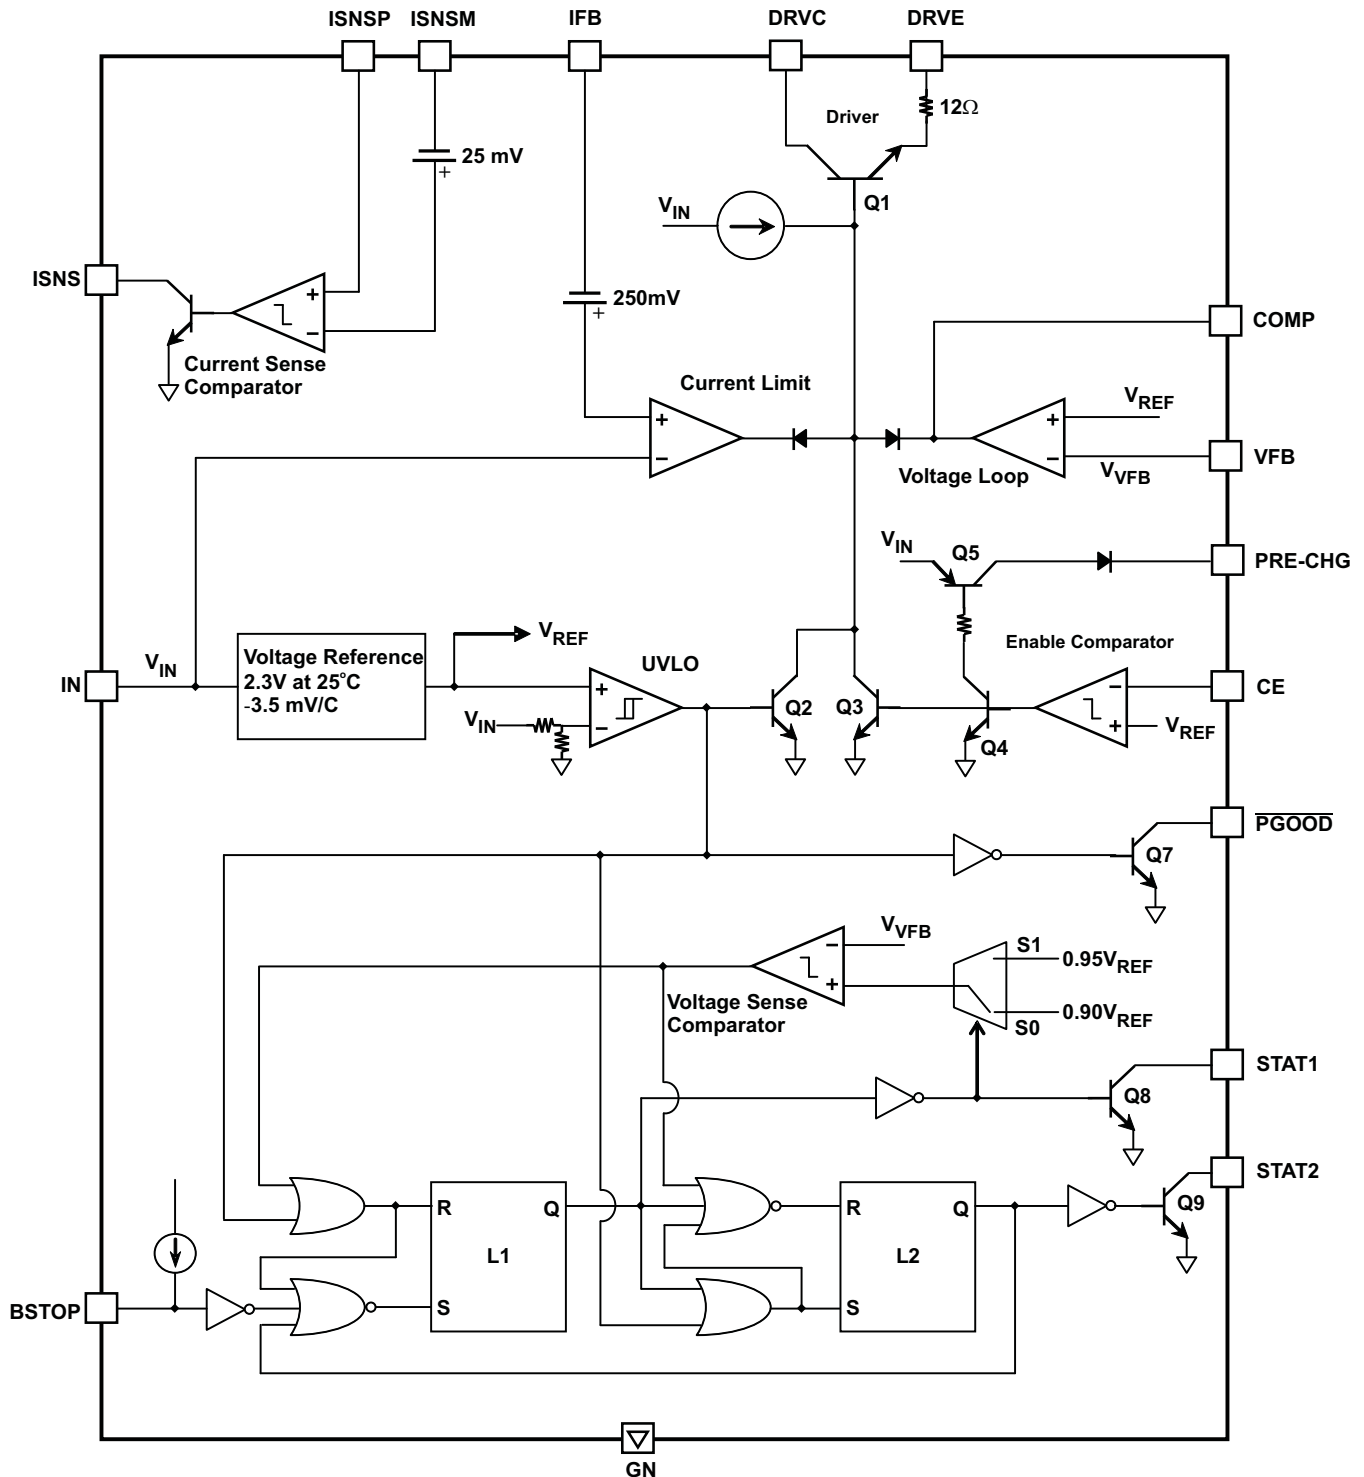
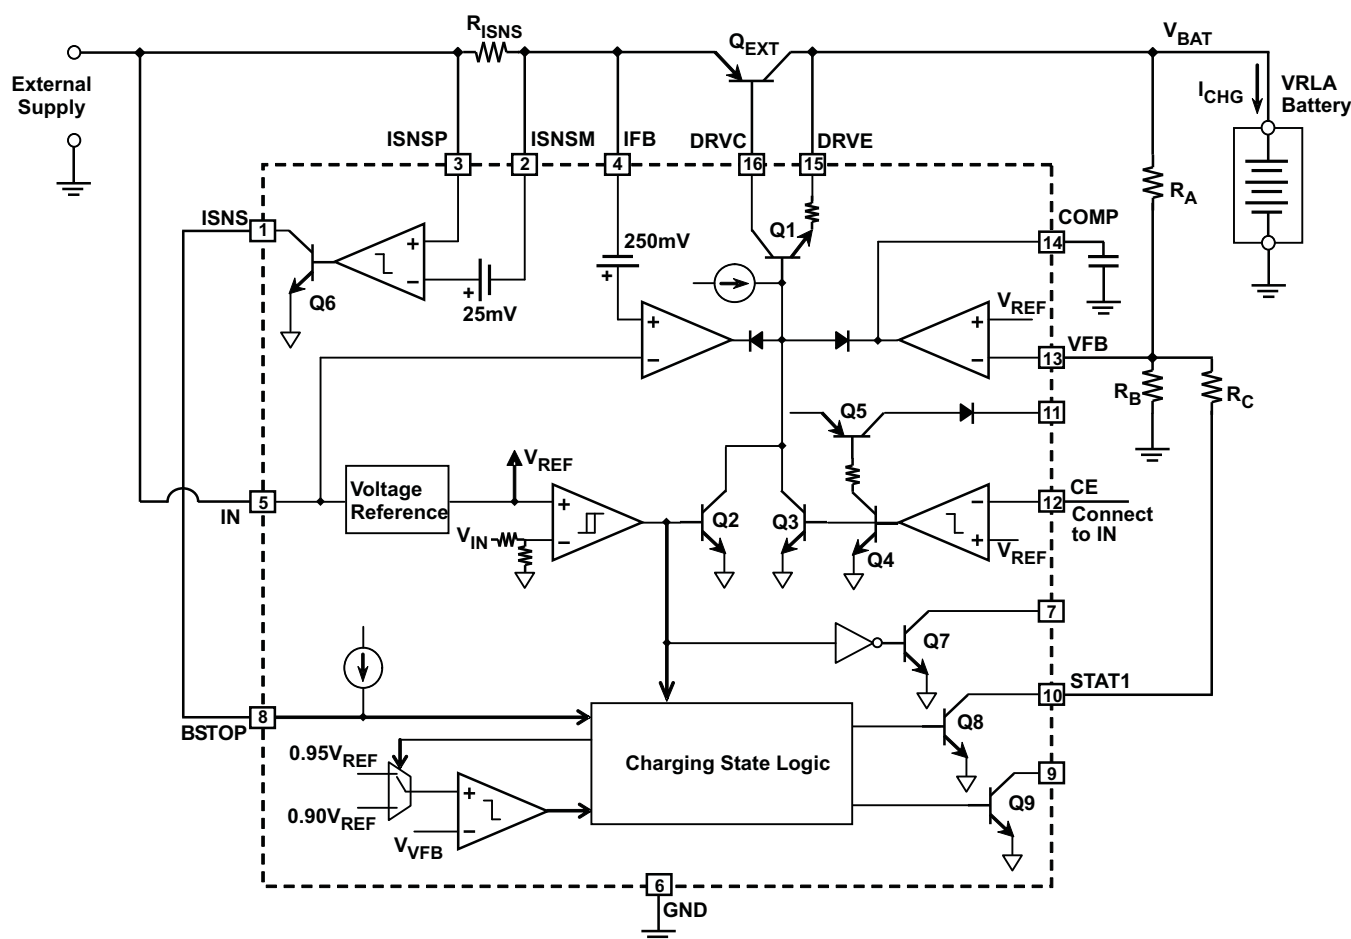
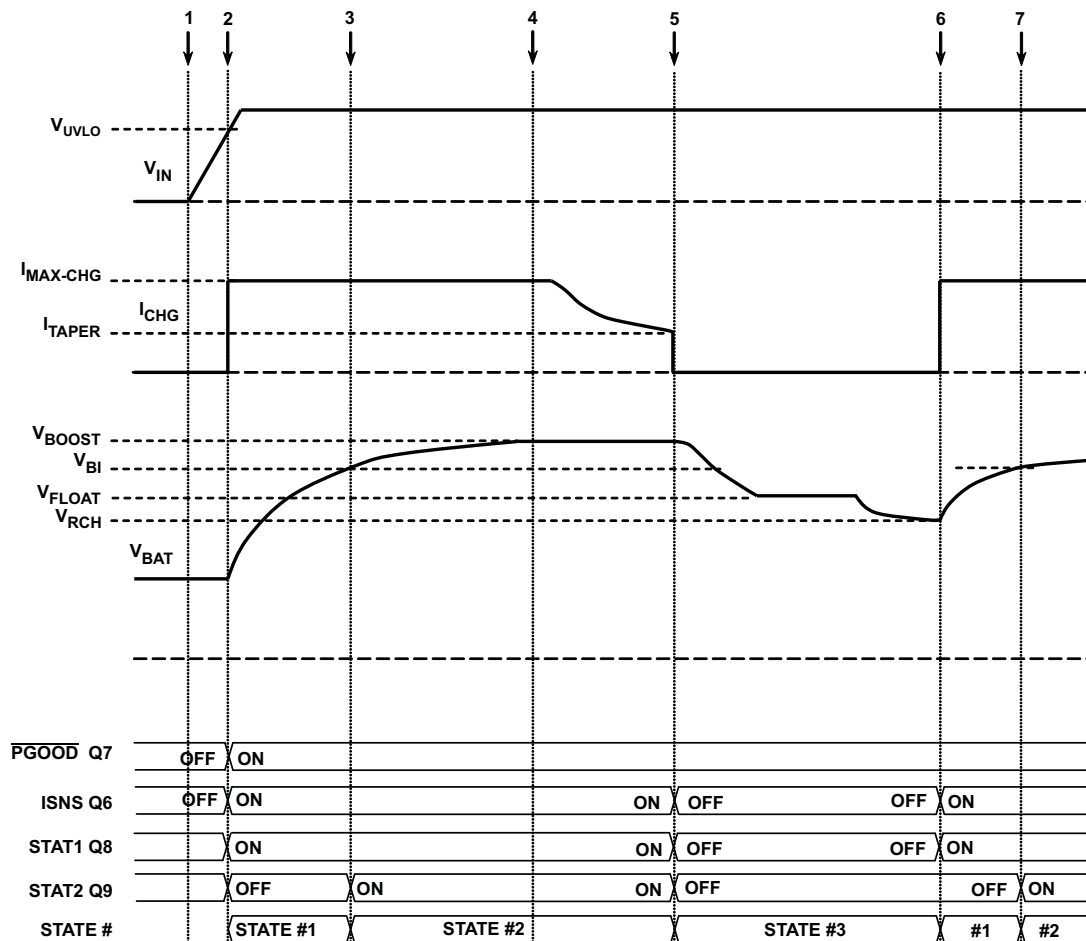

Figure 2. Simplified Block Diagram
Figure 4.
Figure 5.
Only an external pass transistor and minimum number of external passive components are required along with the IC to implement a charger for sealed lead-acid batteries. The IC's internal driver transistor Q1 (see Figure 2) supports NPN as well as PNP pass transistors, and provides enough drive current (25mA specified) to support a wide range of charging rates.
The driver transistor is controlled by a voltage regulating loop and a current limiting-limiting loop (see Figure 2). The current-limiting loop reduces drive when the voltage between the IN pin and the IFB pin increases towards V_{ILIM} (250mV typical). The voltage regulating loop tries to maintain the voltage on the VFB pin at V_{REF} . Together, these two loops constitute a current-limited precision constant-voltage system, which is the heart of any lead-acid charger. The voltage regulating amplifier needs an external compensation circuit which depends on the type of external pass transistor (see Application Information section).
An undervoltage lock-out circuit is also provided (see Figure 2). This circuit disables the driver transistor as long as the input voltage is below UVLO (4.5V typical). The UVLO circuit also drives an open-collector output PGOOD.
Figure 4 shows the bq24450 configured as a simple dual-level float-cum-boost charger. Figure 5 shows the sequence of events that occur in a normal charge cycle. At (1) in Figure 5, power is switched ON. As long as the input voltage V_{IN} is below the undervoltage lockout UVLO, Q2 is ON, disabling the driver transistor Q1. As the input voltage V_{IN} ramps up and rises above UVLO Q2 turns OFF. This enables Q1 and thus the external transistor Q_{EXT} . At the same time, Q7 turns ON, latch L1 is forced to RESET and latch L2 is SET (see Figure 2 for the internals of the Charging State Logic).
As charging proceeds, the voltage at the VFB pin increases further to V_{REF} . At this point, the voltage regulating amplifier prevents the voltage at the VFB pin from rising further, maintaining the battery voltage at V_{BOOST} . [(4) in Figure 4].
As long as the peak load current is less than $I_{MAX-CHG}$, it will be supplied by Q_{EXT} , and the voltage across the battery will be maintained at V_{FLOAT} . But if the peak load current exceeds $I_{MAX-CHG}$, the battery will have to provide the excess current, and the battery terminal voltage will drop. Once it drops below $0.9V_{REF}$, at (6) in Figure 4, a new charge cycle is initiated. The battery voltage V_{BAT} at this point, V_{RCH} , is given by: